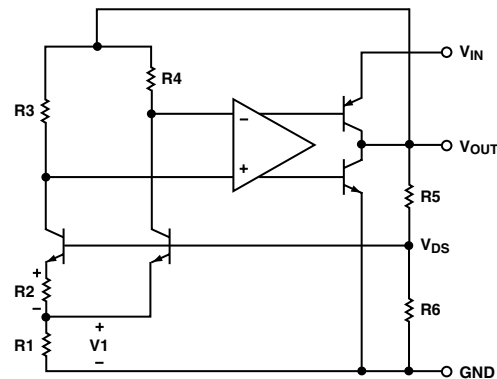

Figure 1. Simplified Schematic
The ADR370 uses the band-gap concept to produce a stable, low temperature coefficient voltage reference suitable for high accuracy data acquisition components and systems. This device makes use of underlying temperature characteristics of a silicon transistor's base-emitter voltage ( $V_{BE}$ ) in the forward biased operating region. Under this condition, all such transistors have a  $-2 \text{ mV}/^\circ C$  temperature coefficient (TC) and a  $V_{BE}$  that, when extrapolated to absolute zero, 0 K, (with collector current proportional to absolute temperature) approximates the silicon band-gap voltage. By summing a voltage that has an equal and opposite temperature coefficient of  $2 \text{ mV}/^\circ C$  with a  $V_{BE}$  of a forward biased transistor, an almost zero TC reference can be developed. The simplified circuit diagram in Figure 1 shows how a compensating voltage,  $V_1$ , is achieved by driving two transistors at different current densities and amplifying the resultant  $V_{BE}$  difference ( $\Delta V_{BE}$ , which has a positive TC). The sum ( $V_{BG}$ ) of  $V_{BE}$  and  $V_1$  is then buffered and amplified to produce a stable reference voltage of 2.048 V at the output.